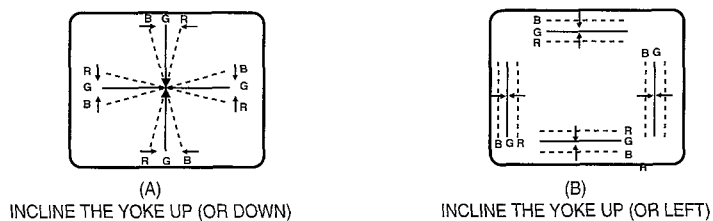

FIG. 2 CIRCUMFERENCE CONVERGENCE BY DEF. YOKE
3. Tilt the defection yoke up and down, and insert tilt adjustment wedges 1 and 2 between the deflection yoke and the CRT until the misconvergence illustrated in figure. 2 (A) has been corrected.
4. Tilt the deflection yoke right and left, and insert tilt adjustment wedge 3 between the deflection yoke and the CRT until mis-convergence illustrated in figure. 2 (B) has been corrected.